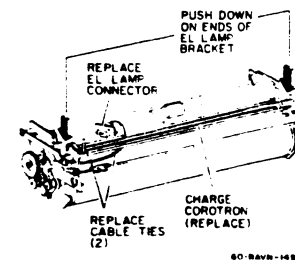

Figure 4. EL Lamp Replacement
4. LATCH THE EL LAMP IN PLACE (FIGURE 4).
6. REPLACE CABLE TIES (2)